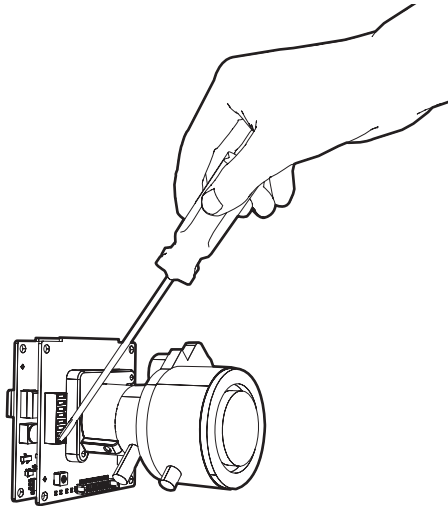

Figure 13. DIP Switches
1. Locate the DIP switch. 2. Set the switches for your installation using a small screwdriver, refer to Figure 13.